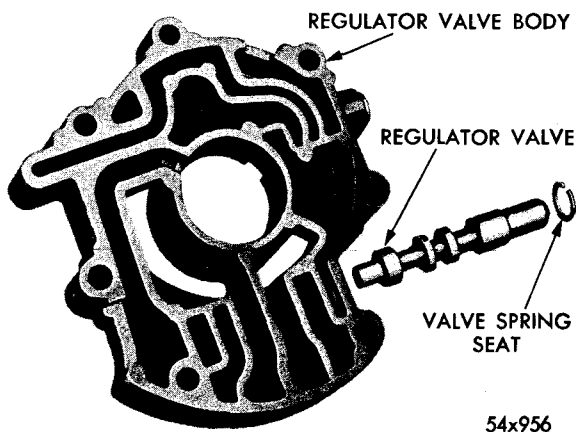
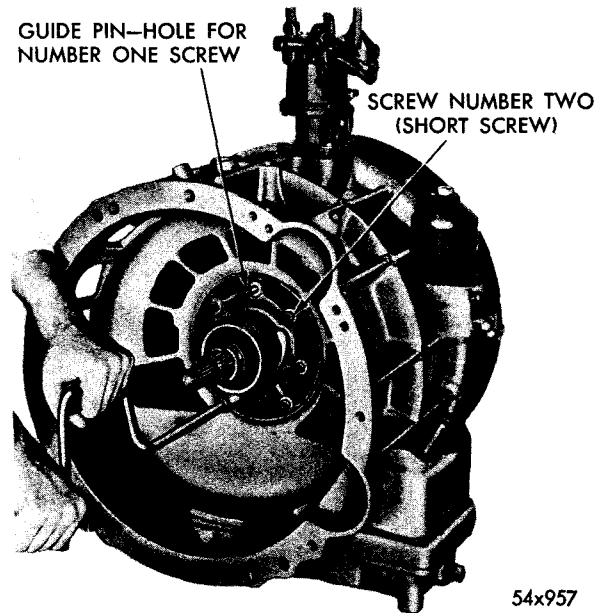
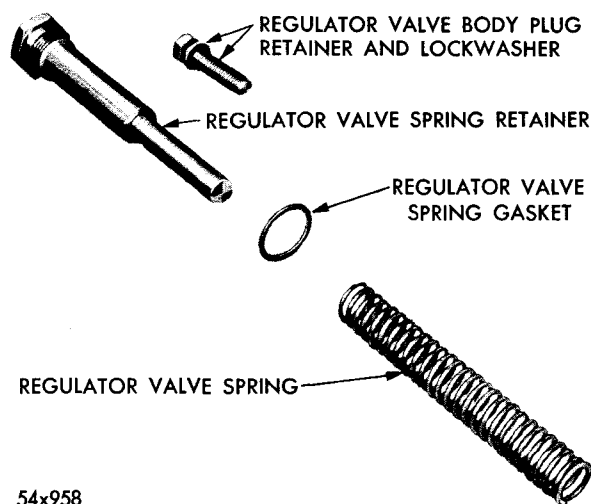

Fig. 26—Torque Converter Regulator Valve Body (Disassembled View)
Fig. 27—Installing and Tightening the Oil Pump Housing
Fig. 28—The Regulator Assembly (Disassembled View)
- (17) Remove the regulator valve body retainer bolt, from the right side of the Converter Housing.
- (18) Remove the oil pump drive seal and the oil pump drive sleeve from the oil pump housing.
- (19) Remove the screws which bolt the oil pump assembly in the Converter Housing. Number the screws while removing, as they must be assembled in their original location. (Fig. 27).
- (20) Remove the pinion and gear from the inside of the oil pump housing.
- (21) Remove the reaction shaft oil seal, and remove the screws from the reaction shaft.
- (22) Remove the regulator valve body from the Converter Housing. Remove the regulator valve from the body. (Fig. 26).
- (15) Install a guide pin in the front of the Converter Housing to coincide with the oil pump housing screw Number One, as shown in Figure 27.
- (16) Install the regulator unit, so that its open end (with all the channeling) is facing into the Converter Housing, (Fig. 26), and that the screw hole Number One of the regulator unit is aligned with the screw hole Number One of the oil pump housing, as shown in Figure 27.
- (17) Install the regulator valve body retainer into the right side of the Converter Housing and tighten. (See Fig. 28).
- (18) Assemble the regulator valve spring gasket, the regulator valve spring and the spring retainer. Install the assembly into the right side of the Converter Housing and tighten.
- (19) Install the Oil Pump Assembly, over the reaction shaft into the Converter Housing, using the guide pin in the hole Number One to insure proper assembly.
- (20) Using a suitable Tool over the Oil Pump Assembly, press the Assembly, until it is firmly seated in the Converter Housing.
- (21) Install and lock the reaction shaft ring seal on the Oil Pump drive sleeve.
- (22) Install the Oil Pump drive sleeve over the reaction shaft and engage with the Oil Pump pinion gear. Rotate the assembly for freedom of operation.
- (23) Install screws three and seven with washers and tighten to 15 foot-pounds torque, as shown in Figure 27. While tightening the screws, continue to turn the Oil Pump drive sleeve so that it operates freely.
- (24) Install screw Number two. This is the short screw and is the only screw that will fit into this hole. Tighten to 18 foot-pounds
The oil pump and regulator assembly, as shown in Figures 26 and 27, fits into the front end of the Torque Converter Housing, and consists of the following parts:
- (1) Remove the regulator valve body retainer bolt, the regulator valve spring retainer, the spring gasket and the regulator valve spring, from the right side of the Torque Converter Housing. (See Fig. 28).
- (2) Remove the oil pump drive seal and the oil pump drive sleeve from the oil pump housing.
- (3) Remove the screws which hold the oil pump assembly in the Converter Housing. Number the screws while removing, as they must be assembled in their original location. (See Fig. 27).
- (4) Remove the regulator valve body from the rear of the oil pump housing. (See Fig. 26).
- (6) Install the regulator valve into the regulator valve body, rotating the valve while installing. This is done to insure a free snug fit. Should the regulator valve snag in the valve passage, remove the valve. Inspect the regulator valve body for burrs, dirt or wear. If there is no damage to the regulator valve body, or the valve, re-install the valve in the regulator valve body.
- (7) **DO NOT USE FORCE WHEN REASSEMBLING THE REGULATOR VALVE INTO THE VALVE BODY.** Damage to the oil passageway in the diecast valve regulator body, will render the unit useless and cause great damage to the Torque Converter, if installed incorrectly.
- (8) Install a guide pin or stud in the hole in the front of the Converter Housing, to coincide with the Oil Pump Housing screw Number One, as shown in Figure 27.
- (9) Install the regulator assembly, so that its open end (with all the channeling) is fac-